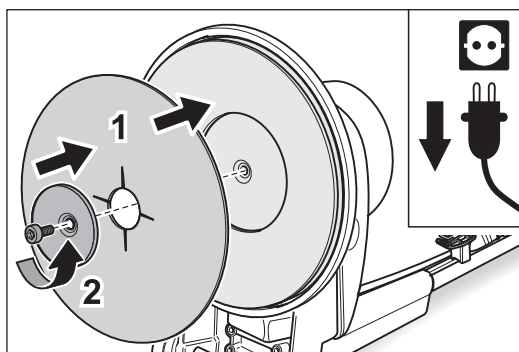

Fig. 19 Place the new sanding disc in the sanding plate and screw it in place. Turn the screw **anti-clockwise** to tighten (**LEFT-HANDED THREAD**)!
- 7 Place a new sanding disc on the sanding plate and push the fastening screw with paper retaining disc into the sanding plate (Fig. 19).
- 8 Use the hexagonal socket wrench to turn the fastening screw **anti-clockwise** into the sanding plate (**LEFT-HANDED THREAD**)! Please ensure that the sanding disc is attached to the sanding plate as centrally as possible (Fig. 19).